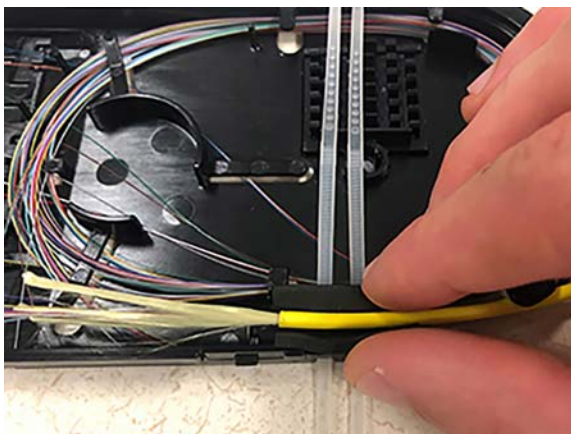

Figure 13. Placing Feeder Fiber in Cassette
- Place feeder fiber in foam wrap near end of fiber jacket (Figure 13).